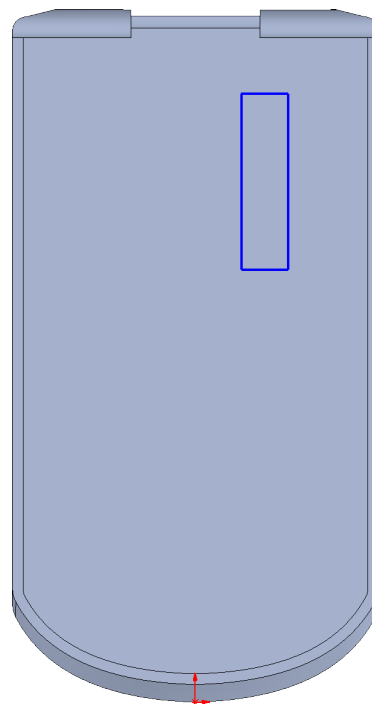
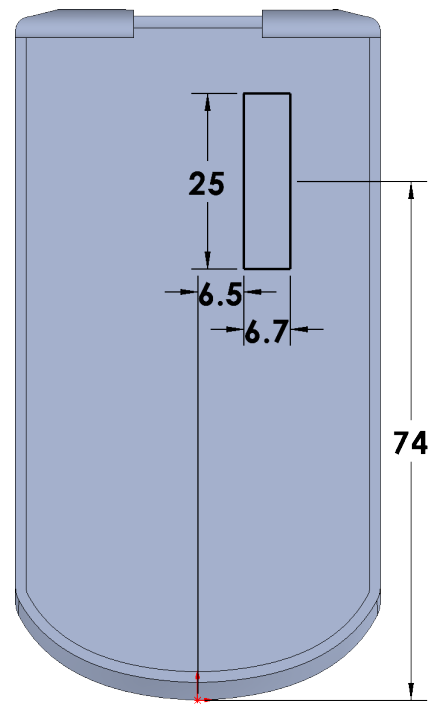

Fig. 40
Fig. 41
Step 4. Sketch **corner rectangle**, **Fig. 40**.
Step 5. Click **Smart Dimension**  (S) on the Sketch toolbar.
Step 6. Add dimensions, **Fig. 41**.